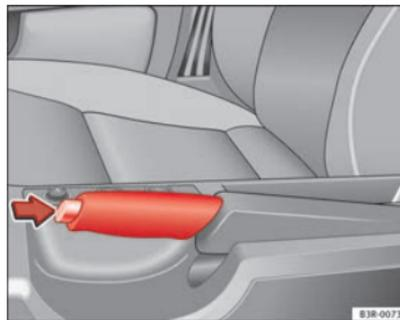

Fig. 142 Detailed view of the centre console: Handbrake on
- Pull the lever up slightly and *at the same time* press in the release button ⇒ Fig. 142 (arrow).